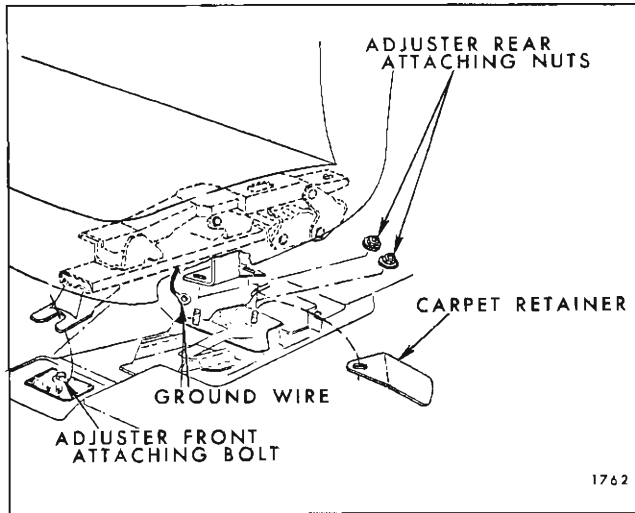

Fig. 2H5—Front Seat Installation
3. Loosen adjuster-to-floor pan front attaching bolt; then, remove both adjuster-to-floor pan rear attaching bolts (Fig. 2H5).